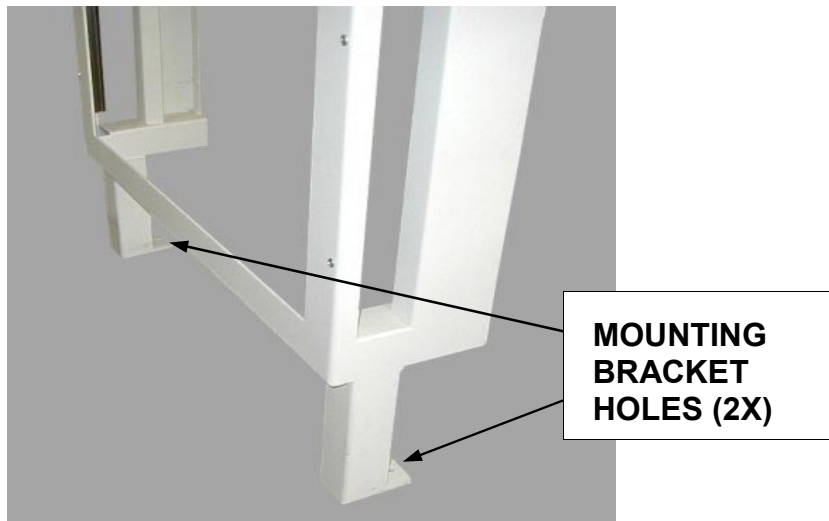

Figure 6. Vertical Wall Frame Floor Mounting Brackets
5. Secure the Wall Frame to the floor through the Floor Mounting Brackets using the appropriate hardware for floor construction (must be capable of supporting 100 lbs. pull-load) as shown in Figure 6.